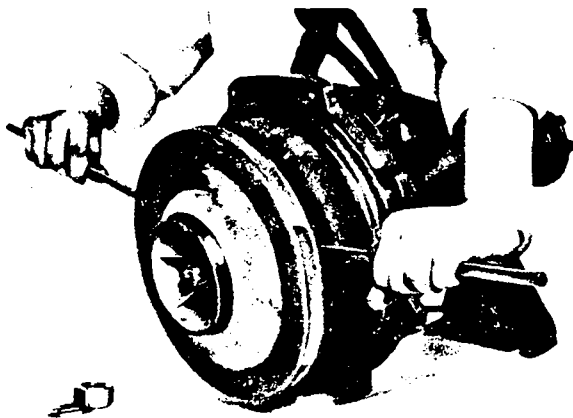

Fig. 18: Removal of impeller
Loosen hexagonal nuts (920.5 or 914), remove all component parts holding the impeller on the shaft (210) and push impeller (230) off the shaft (210) - fig. 18.